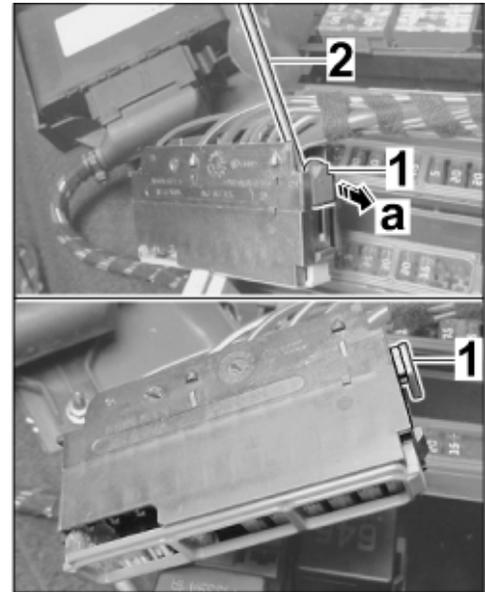

Figure 10
2.4.4 Use a screwdriver to open the secondary lock on fuse strips B and C (⇒ Figure 10 -a).